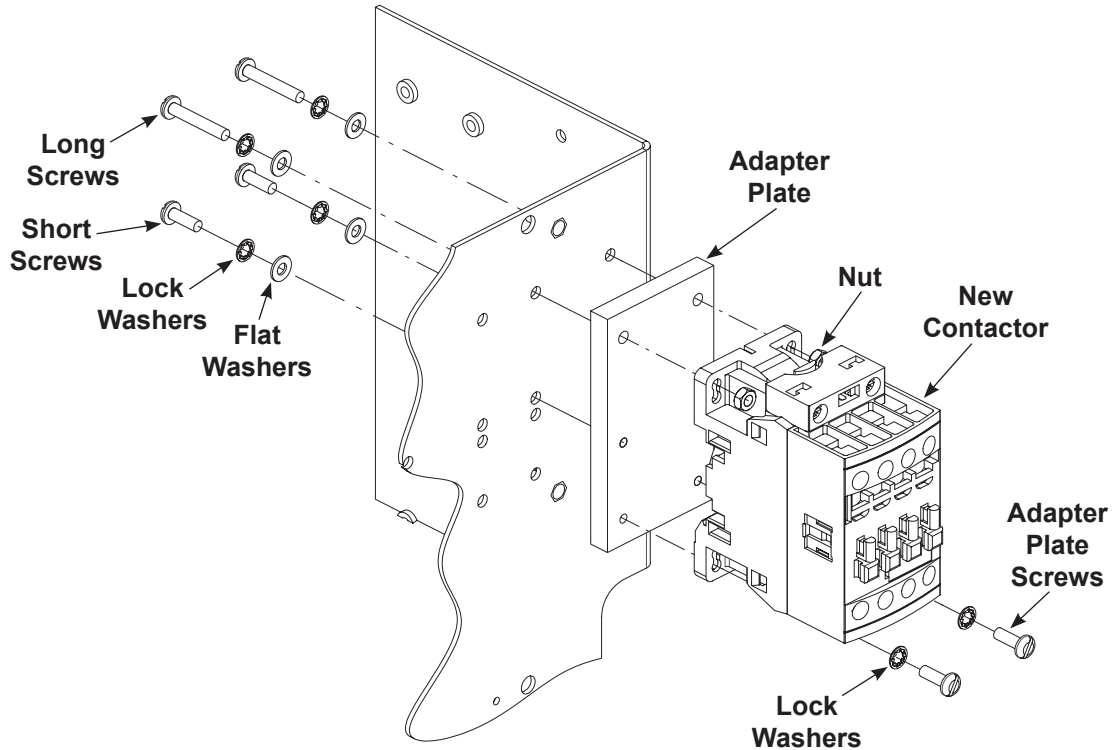

Figure 6 Installing New Contactor
1. See Figure 6. Install adapter plate onto new contactor using two M4 x 12 mm contactor screws and lock washers. Torque to 20 in-lb (2.3 N•m).
NOTE: Note the location of long and short screws as shown in Figure 6.